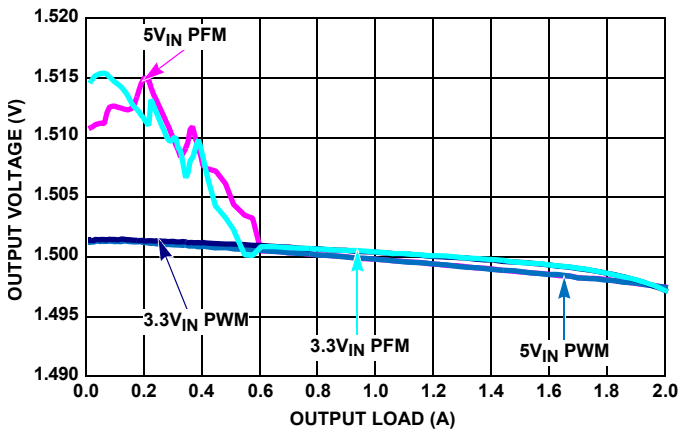

FIGURE 10.  $V_{OUT}$  REGULATION vs LOAD,  $f_{SW} = 2\text{MHz}$ ,  $V_{OUT} = 1.5\text{V}$ ,  $T_A = +25^\circ\text{C}$
- Not tested in production. Characterized using evaluation board. Refer to Figures 10 through 12 load regulation diagrams.  $T_A +105^{\circ}\text{C}$  represents near worst case operating point.